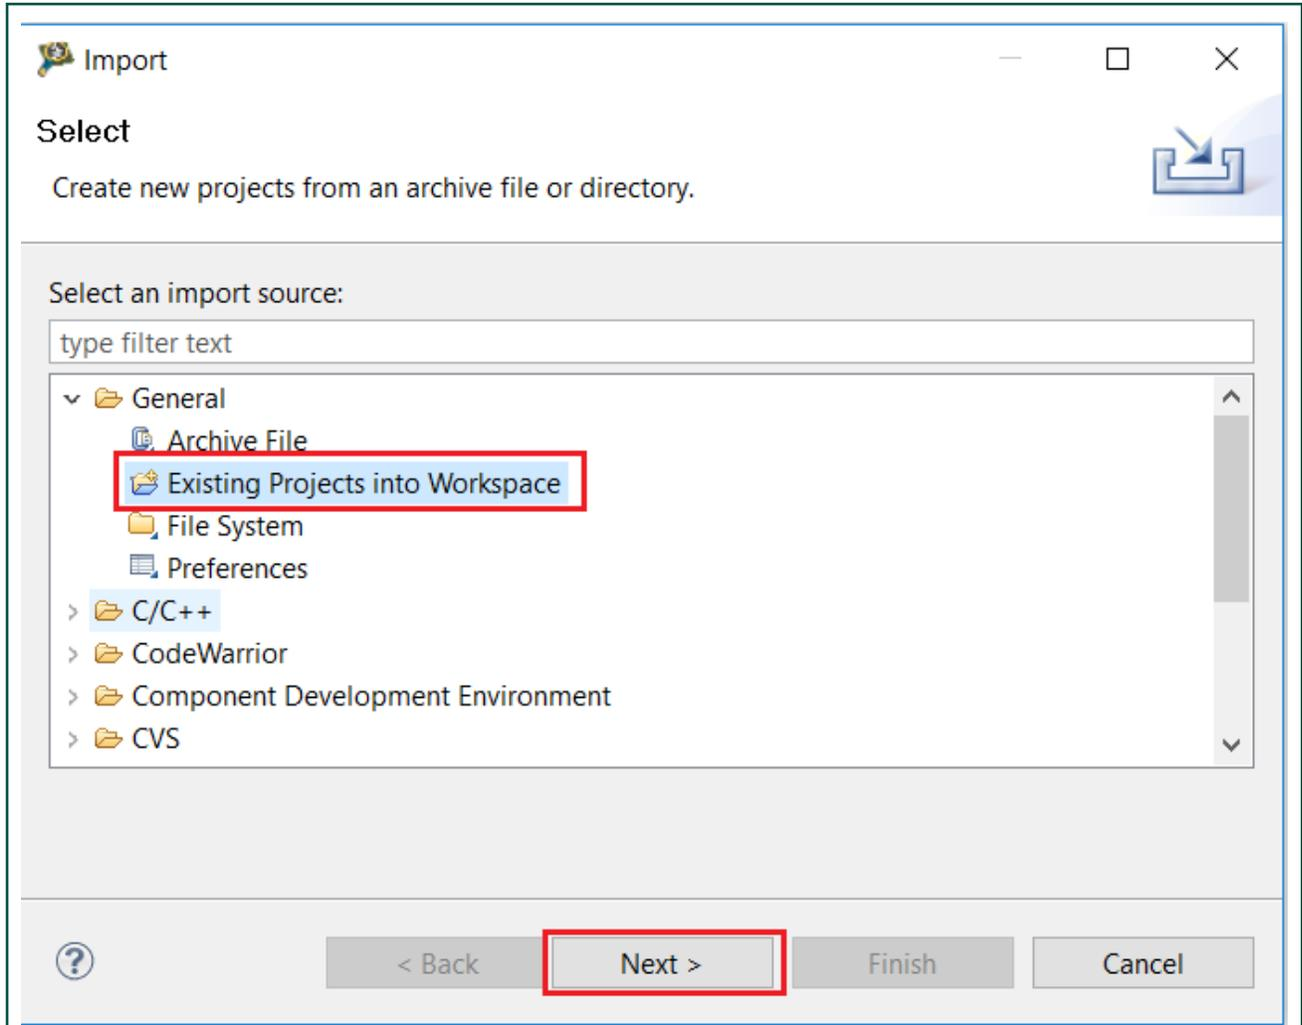

Figure 4. Importing project in CW IDE—second step
- The "Import" window opens. Highlight the "Existing Projects into Workspace" option in the "General" folder, and click the "Next" button. The window shown in Figure 4 appears. Select "General/Existing Projects into Workspace".